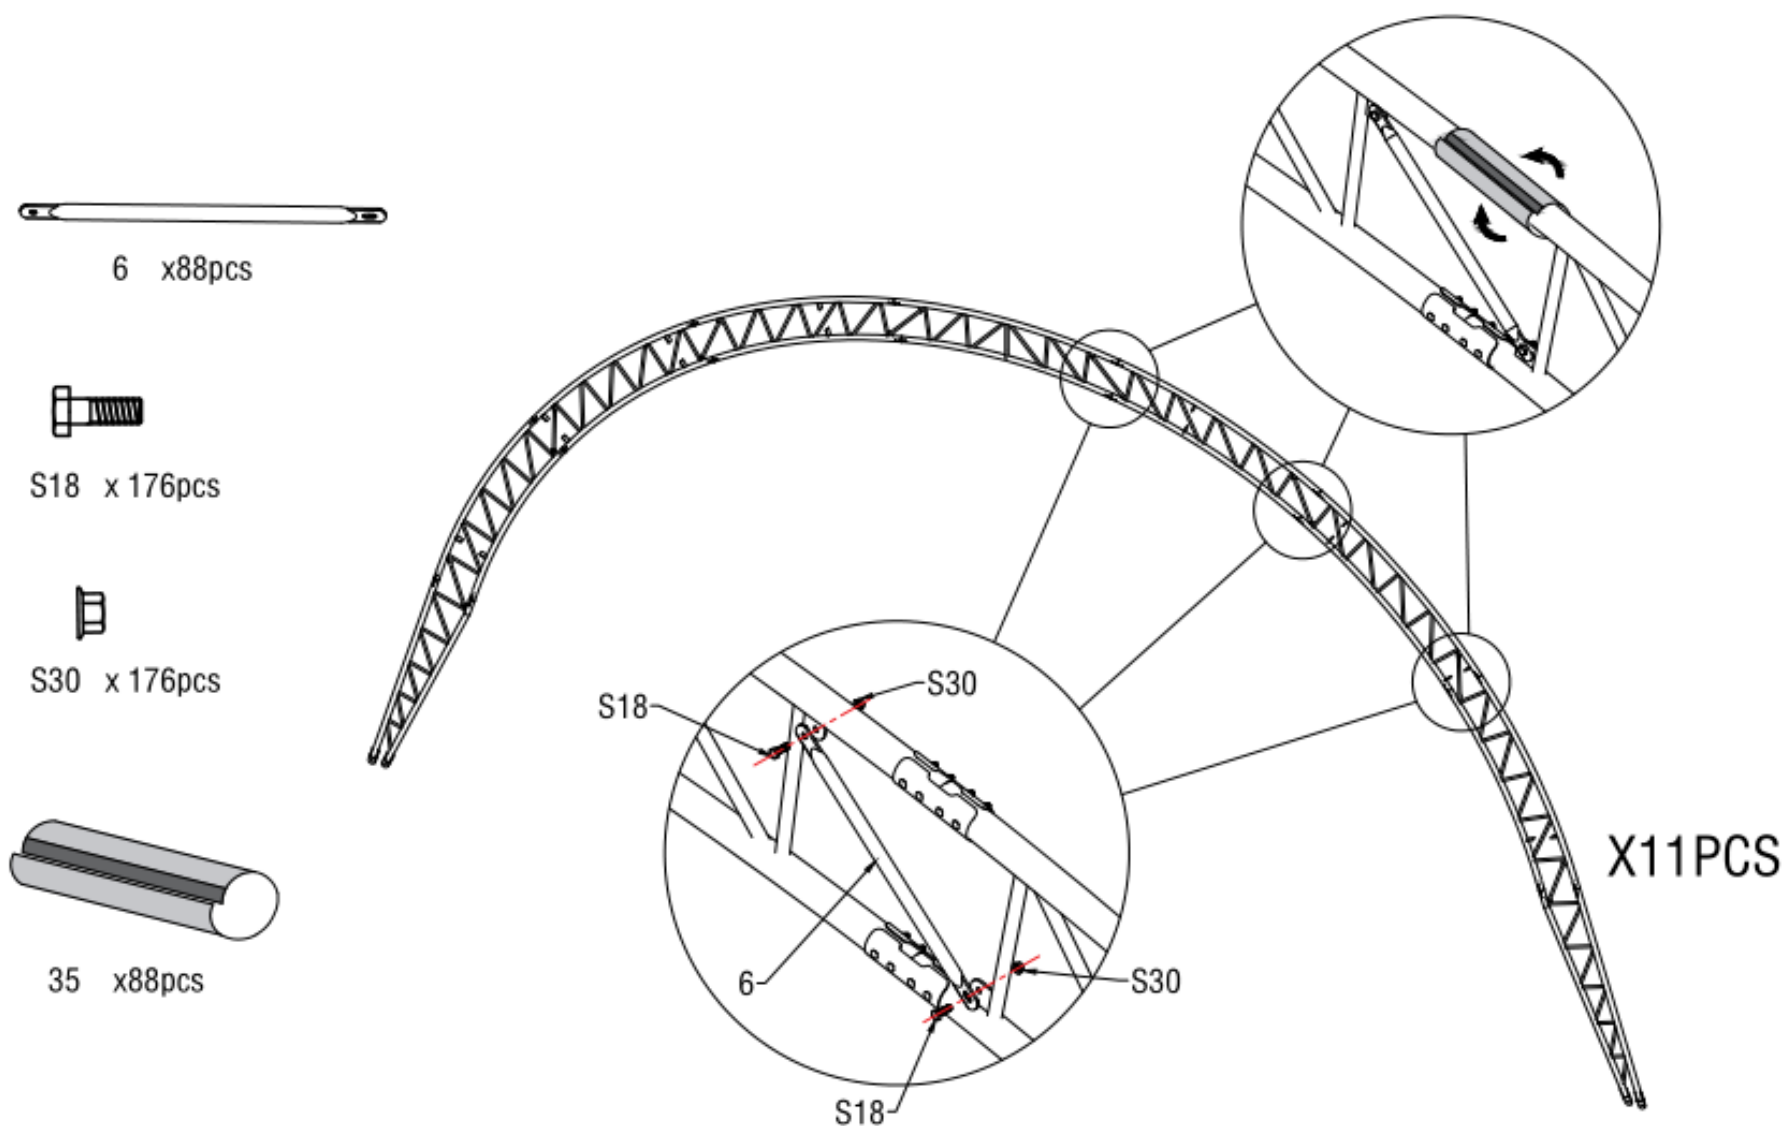

Figure 5
- As figure 5 shown, use the Supporting Webbing between the arch(No.6) to connect the Top roof tube (No.1) with hexagon bolt 10\*30mm (No. S18). Then put the PVC protective cover on the outer of connection of the arch to protect the roof cover from scratched by the outer joint. Assemble the rest of the other group double truss arch like this.